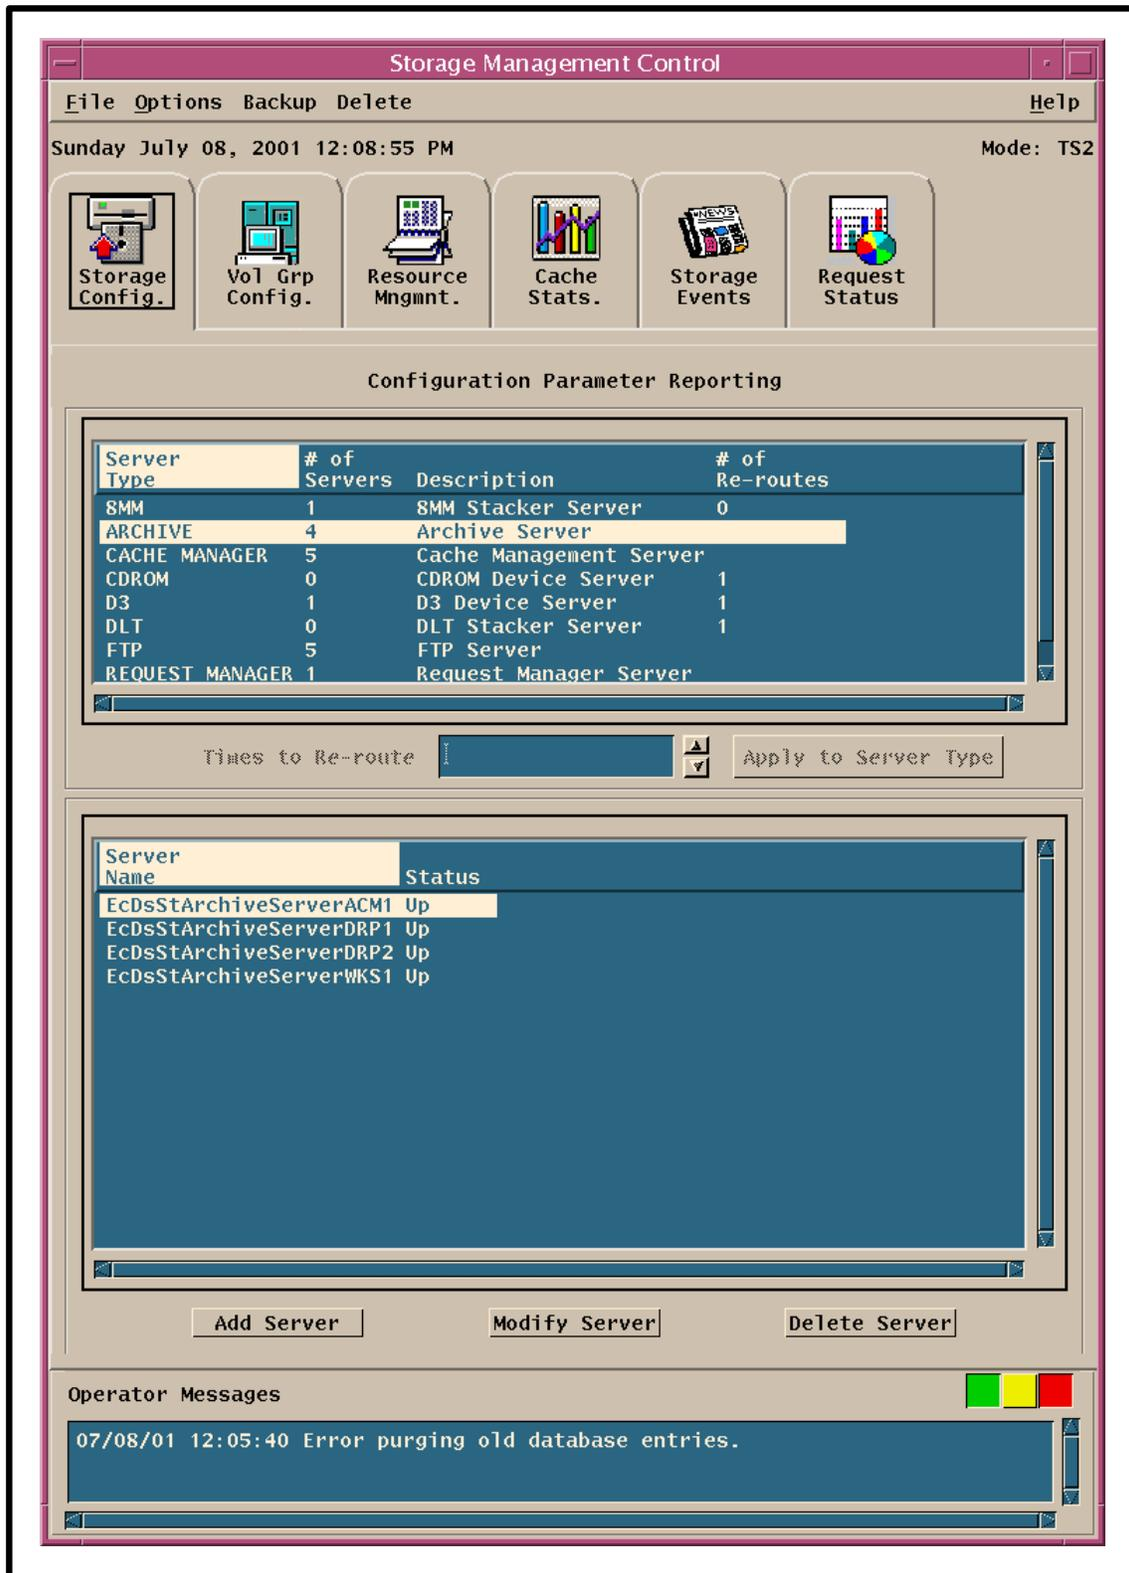

Figure 7. Storage Config. Tab (Storage Management Control GUI)
- The **Storage Management Control GUI Storage Config.** tab (Figure 7) is displayed.